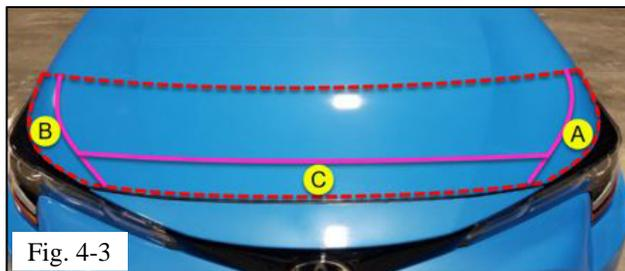

Fig. 4-3
- (c) Place one hand at the lower edge near the center to move the film into position so that it is aligned properly. Use the squeegee to push the solution away from steps (a) and (b) towards the center and then out through the lower edge securing the film in place (Fig. 4-3).